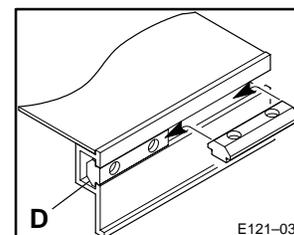

Figure 3: Drop-in T-bar Installation Detail
2. Insert a Drop-in T-bar into each Conveyor side channel by rolling it into position (Figure 3).